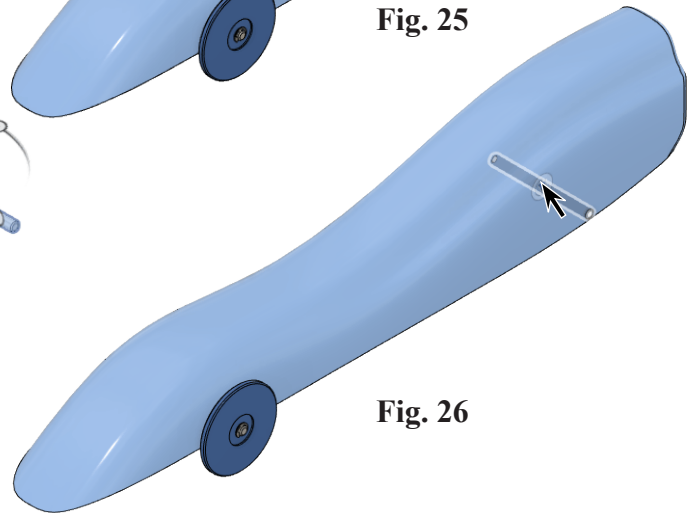

Fig. 26
Step 5. Click **centerline/mid-point**  on the **Rear Axle** for the first component selection and **centerline/midpoint**  on rear axle hole in **Body** second component selection, **Fig. 26**.